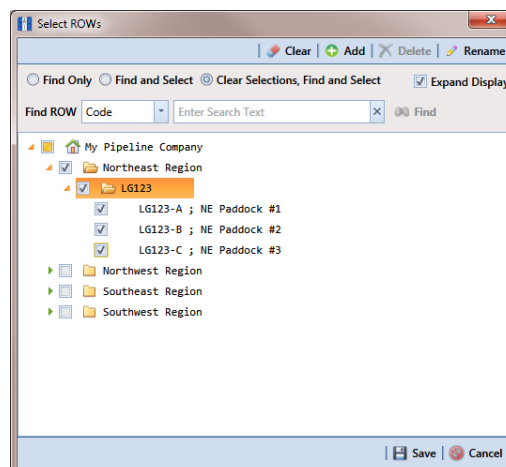

Figure 4-12. Select ROWs
- 1 Click the **Select ROWs** button  to open the *Select ROWs* window (Figure 4-12, page 139).
- 1 Click the **Select ROWs** button  to open the *Select ROWs* window (Figure 4-12, page 139). Select one or more pipeline segments you want to work with by clicking the check box for each pipeline segment. Then click  **Save** to close the window.